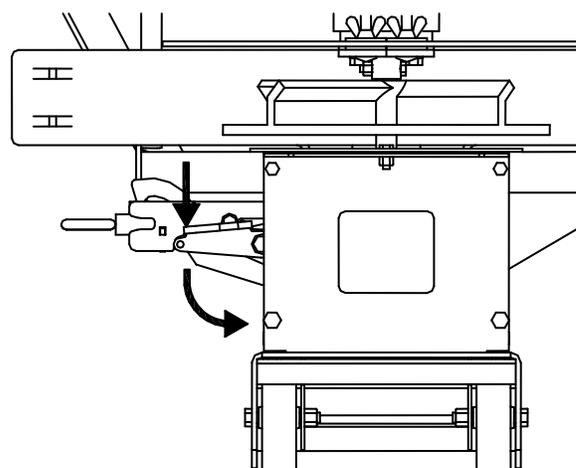

Figure 8. Lever Rotation G10389
4. Rotate attachment lever counter-clockwise to the "ON" position, refer to Figure 8.